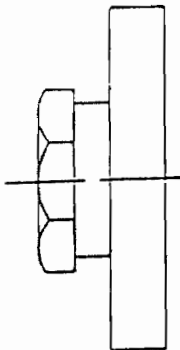
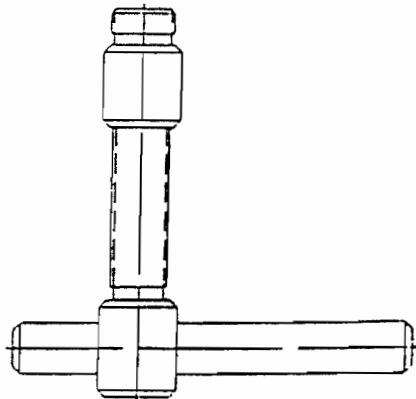

Fig 13-7
Fig 13-8
- e. Before mounting the grinding wheel on the spindle, first wipe the taper portion of the wheel flange and taper of the spindle clean, and then use your hand to push the grinding wheel onto the spindle taper. After that, screw in the spindle nut and tighten it (see figure 13-7). To detach the wheel flange, use the grinding wheel extractor (see figure 13-8).